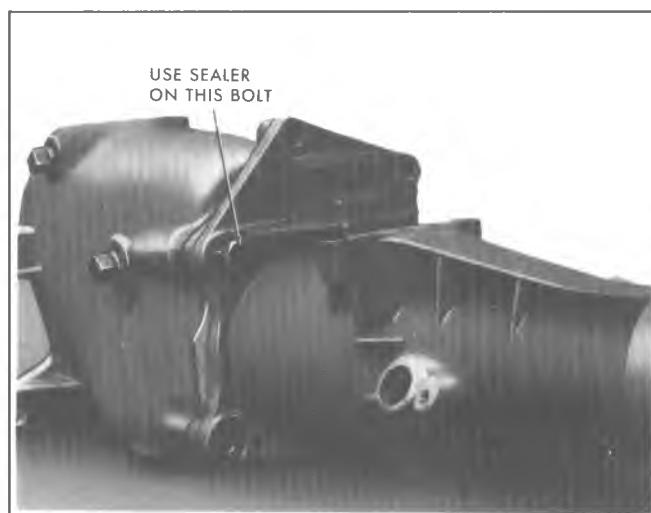

Fig. 7B-24K—Extension Bolt
**NOTE:** It is essential that sealer be used on the extension bolt as indicated in Fig. 7B-24K.